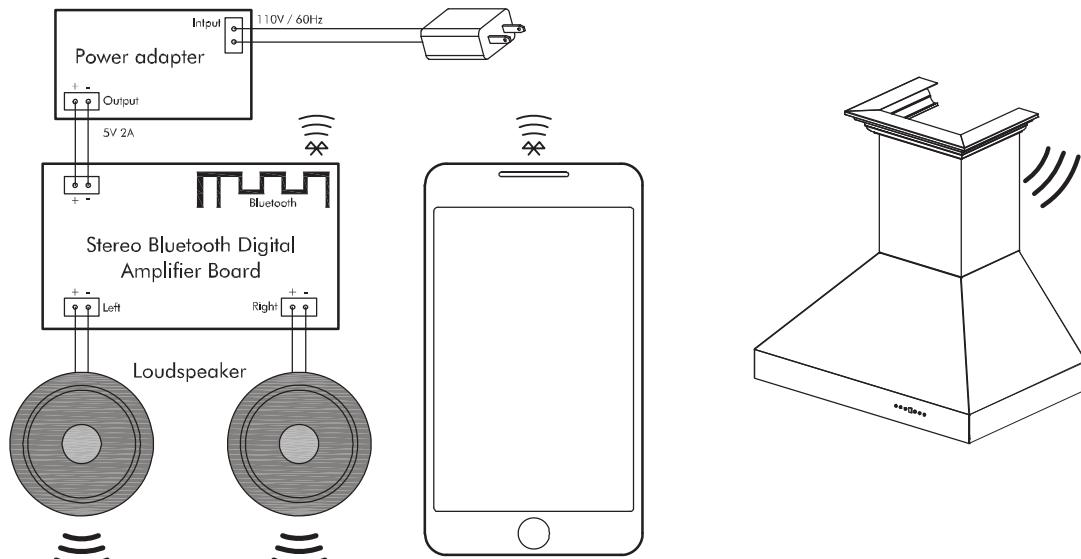

Figure 4
4. Open the phone's Bluetooth settings and find "ZLINE Audio." When the connection is successful, a chime will sound. *Figure 4*